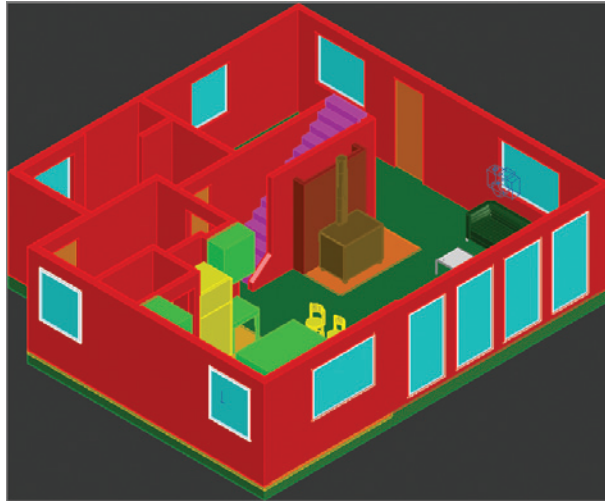

FIGURE 18.1 3D house model
1. Go to the book's web page at www.sybex.com/go/autocad2014_essentials, browse to Chapter 18, get the file Ch18-A.dwg, and open it. This is a model of the author's house (see Figure 18.1).